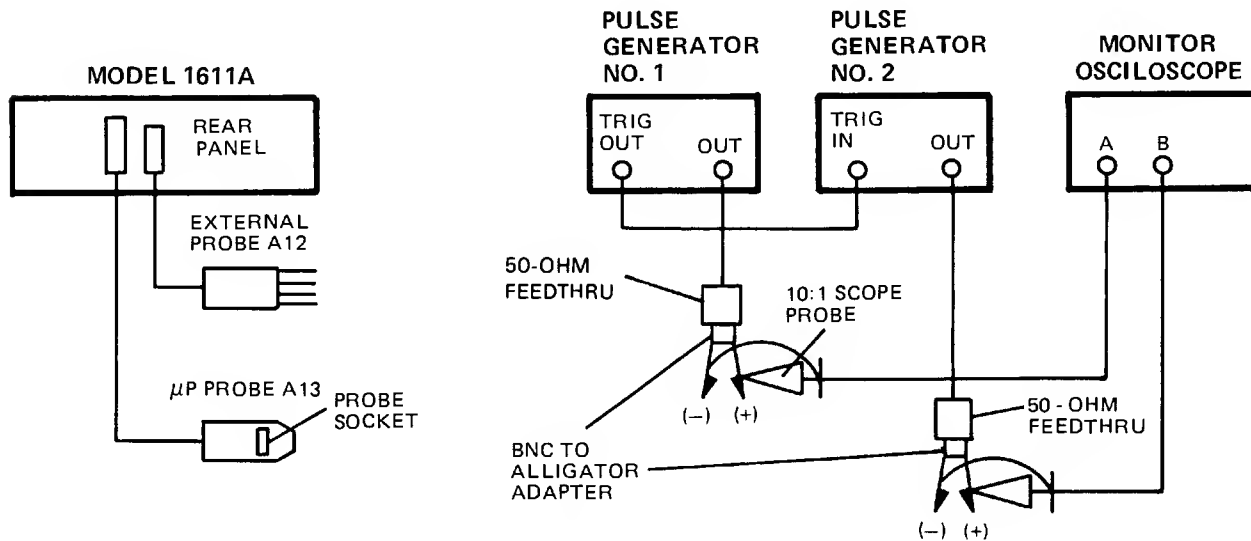

Figure 4-4. Data Test Setup
- Connect test equipment as shown in figure 4-4.